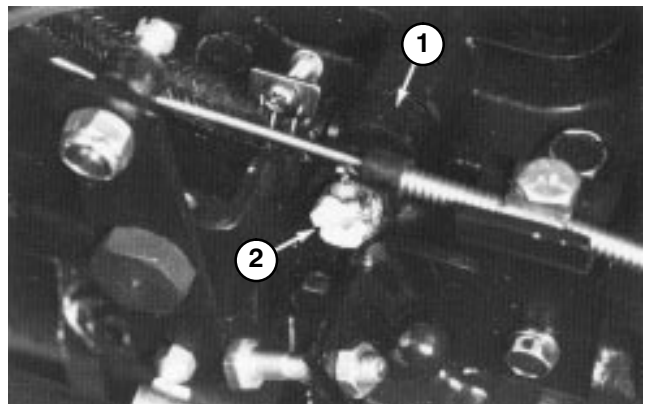

Figure 34
4. Open the air bleed screw on the fuel injection pump (Fig. 34) with a 12 mm wrench.